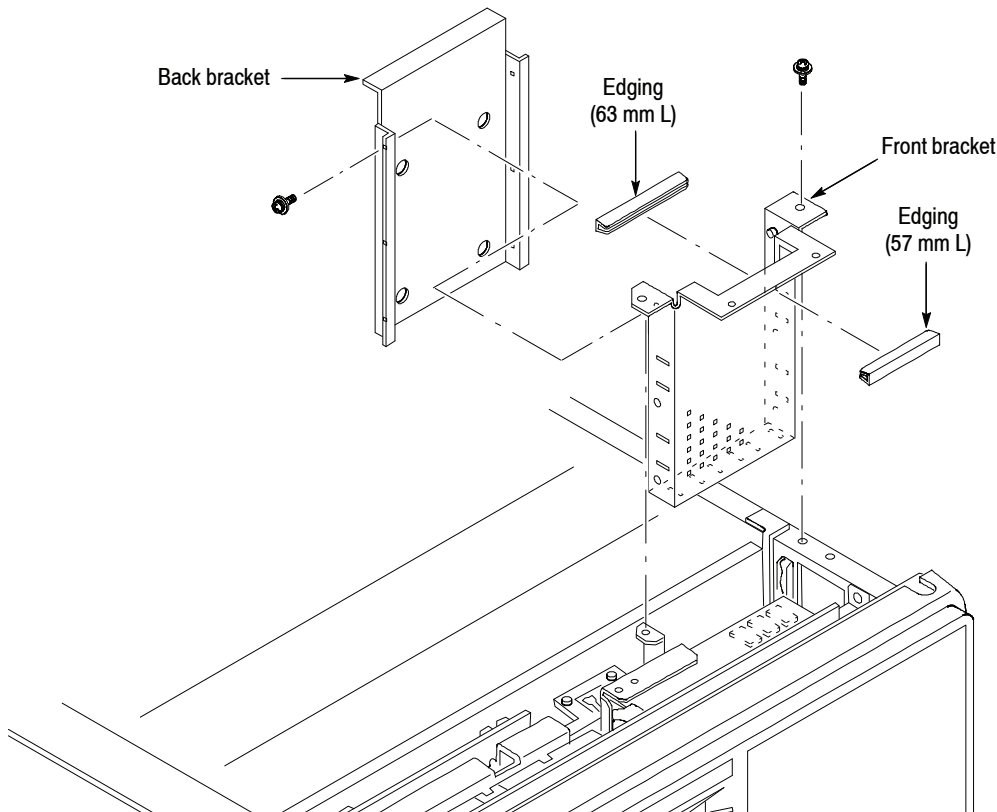

Figure 5-20: Outside HDD bracket assembly removal
7. *Remove the outside HDD bracket assembly:* See Figure 5-20.